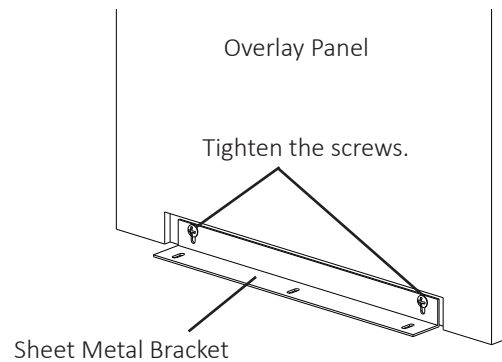

Fig. 16
- 4) Remove the overlay panel from the door and tighten the two M4×8 truss head screws securing the sheet metal bracket to the overlay panel (See Fig. 16).